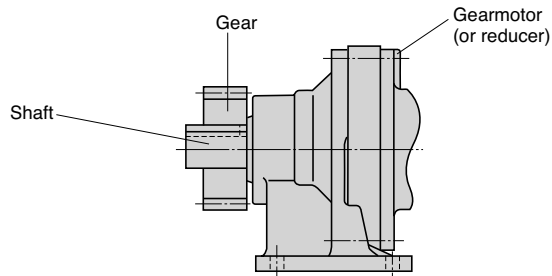
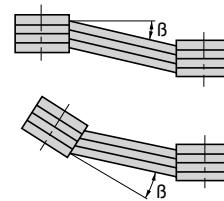

Fig. 8
Fig. 9
(2) When Using a Chain Sprocket and Gear
- Install sprocket and gears so that their point of load application will be closer to the gearmotor or reducer side with respect to the length of the shaft. (Fig.8)
(3) When Using a V-belt
- The parallelism and eccentricity (β) between two pulleys should be within 20 minutes. (Fig.9)